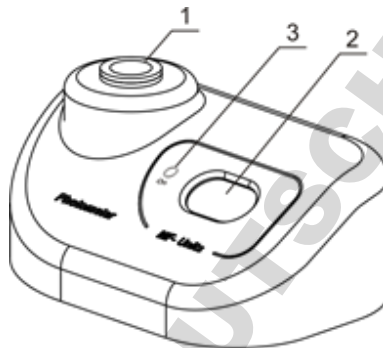

Figure 3. Front view
- Check if the **A-16** adapter is in the socket (fig. 3/1). The device is calibrated for operation with the glass tubes 16 mm in external diameter. To use different tubes, recalibrate the unit, see the **Calibration** section of the manual.
- 5.2. The following indication may be shown on the display (fig. 3/2):
Note. The display of **DEN-1B** switches off if the socket is empty for longer that one minute. Press the **On** key (fig. 3/3) to activate the unit.
- 5.3. Shake the tube with the solution. It is recommended to use a vortex for shaking, e.g. **Biosan V-1 plus**. Insert the tube into the socket of densitometer (fig. 3/1). The McFarland value for the solution will be shown on the display (fig. 3/2).
- 6.6.2. **Transparent standard.** Display shows **0.00** indication. Insert standard for **0.00** value into the socket (fig. 3/1) of the unit. If the standard for 0.00 value is not available, fill the tube (of the kind that is used for operations) with distilled water. Use the tube as the **0.00** value standard. Press **Install** button to save empty socket value. Display shows next required calibration value.
- 6.7. **Common calibration rules.** Display shows indication of necessary calibration value. Insert the necessary standard into the socket (fig. 3/1) of the unit and press the **Install** button to save the value for current standard.